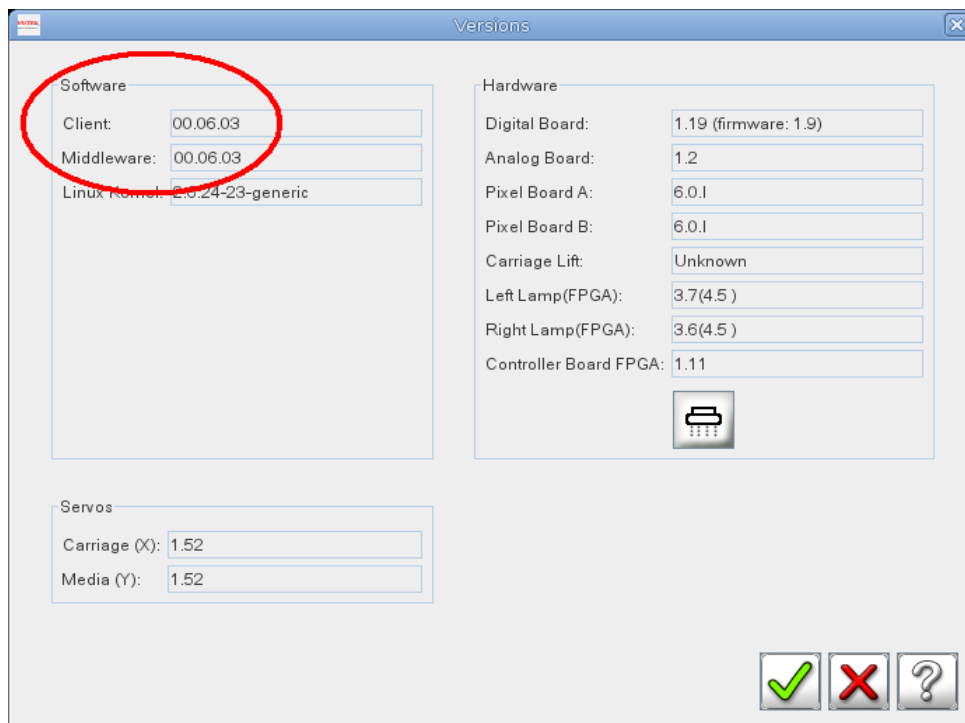

Figure 41: VUI Versions dialog box
9. To verify new version of software is running, select **Service** and then **Versions** from VUI. Currently software version displays in **Software** pane on left side of **Versions** dialog box, shown in **Figure 41**.
- c. When **Setup Utility** screen (shown in **Figure 41**) is displayed, select **Main** tab and press **ESC** to go to **Exit** menu.